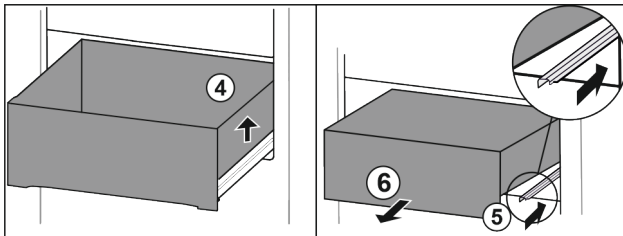

Fig. 14*
- ▶ Lift drawer on the right Fig. 14 (4).*
- ▶ Slide in right rail Fig. 14 (5).*
- ▶ Remove the drawer to the front Fig. 14 (6).*